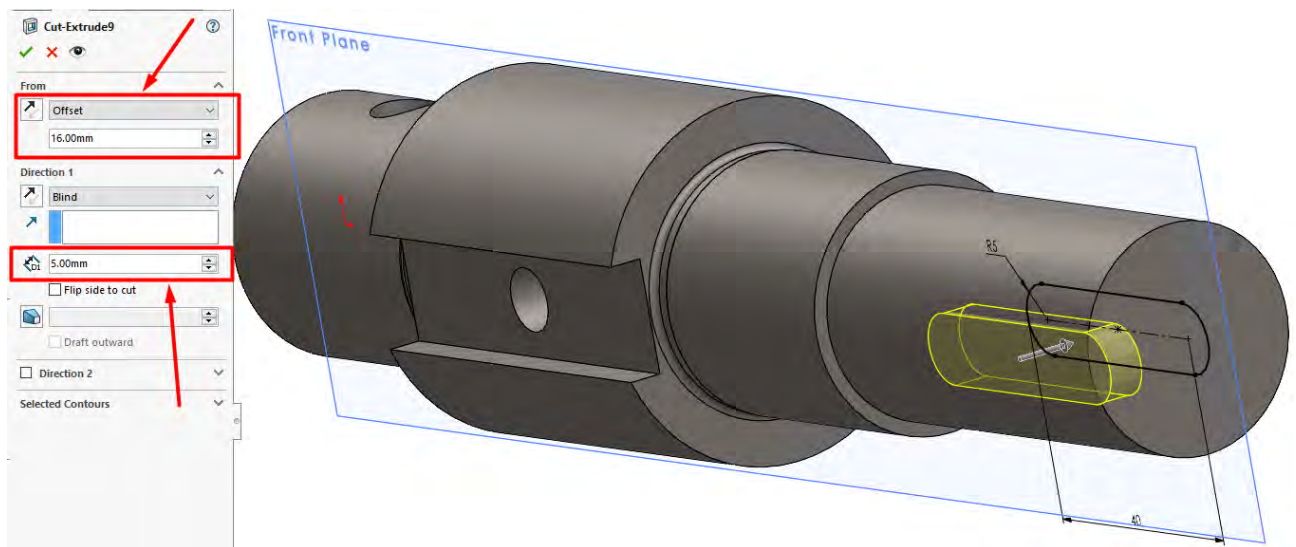

Figure 13 – Using the Offset command to create a groove
- Construct the contour of the keyway using the **Straight Slot command** or a rectangle with subsequent rounding using **Fillet** (Fig. 13).
- Use the **Offset command** to shift the sketch by a distance equal to the radius of the corresponding shaft segment (Figure 13).
- Apply the **Extruded Cut command** and set the depth of the cut according to the drawing (Fig. 13).